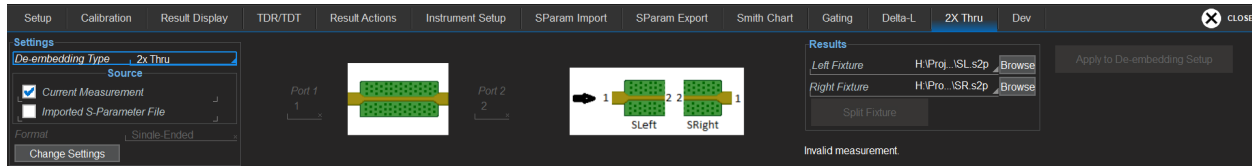

Figure 2: WavePulser 2X Thru dialog, the UI for 2X Thru de-embedding
Figure 2 shows the WavePulser 2X Thru user interface (UI) for making 2-port measurements: